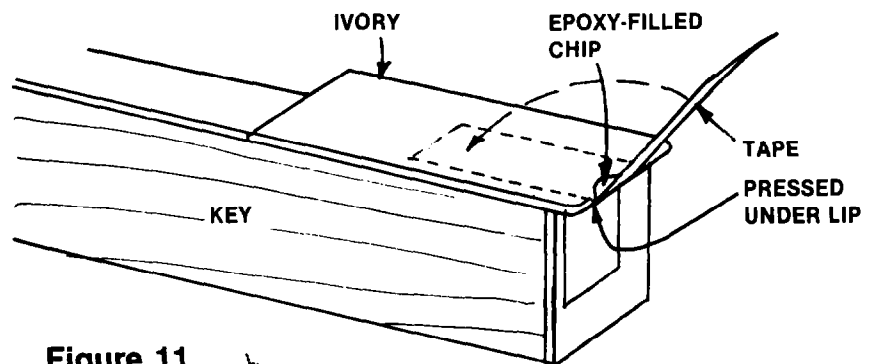

Figure 11
3. Take a small square of masking tape (transparent tape reacts with the epoxy to make bubbles) and press it on the underside of the ivory lip, add only enough epoxy to fill the break and pull the tape over the top of the head so as to form a mold (see Fig. 11 -JK).